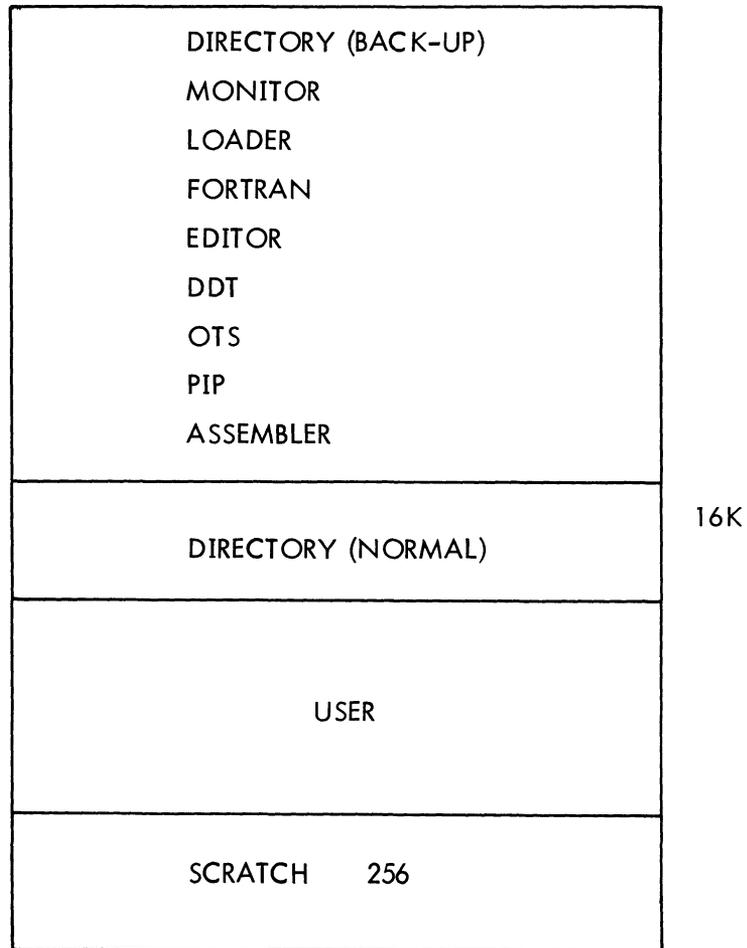
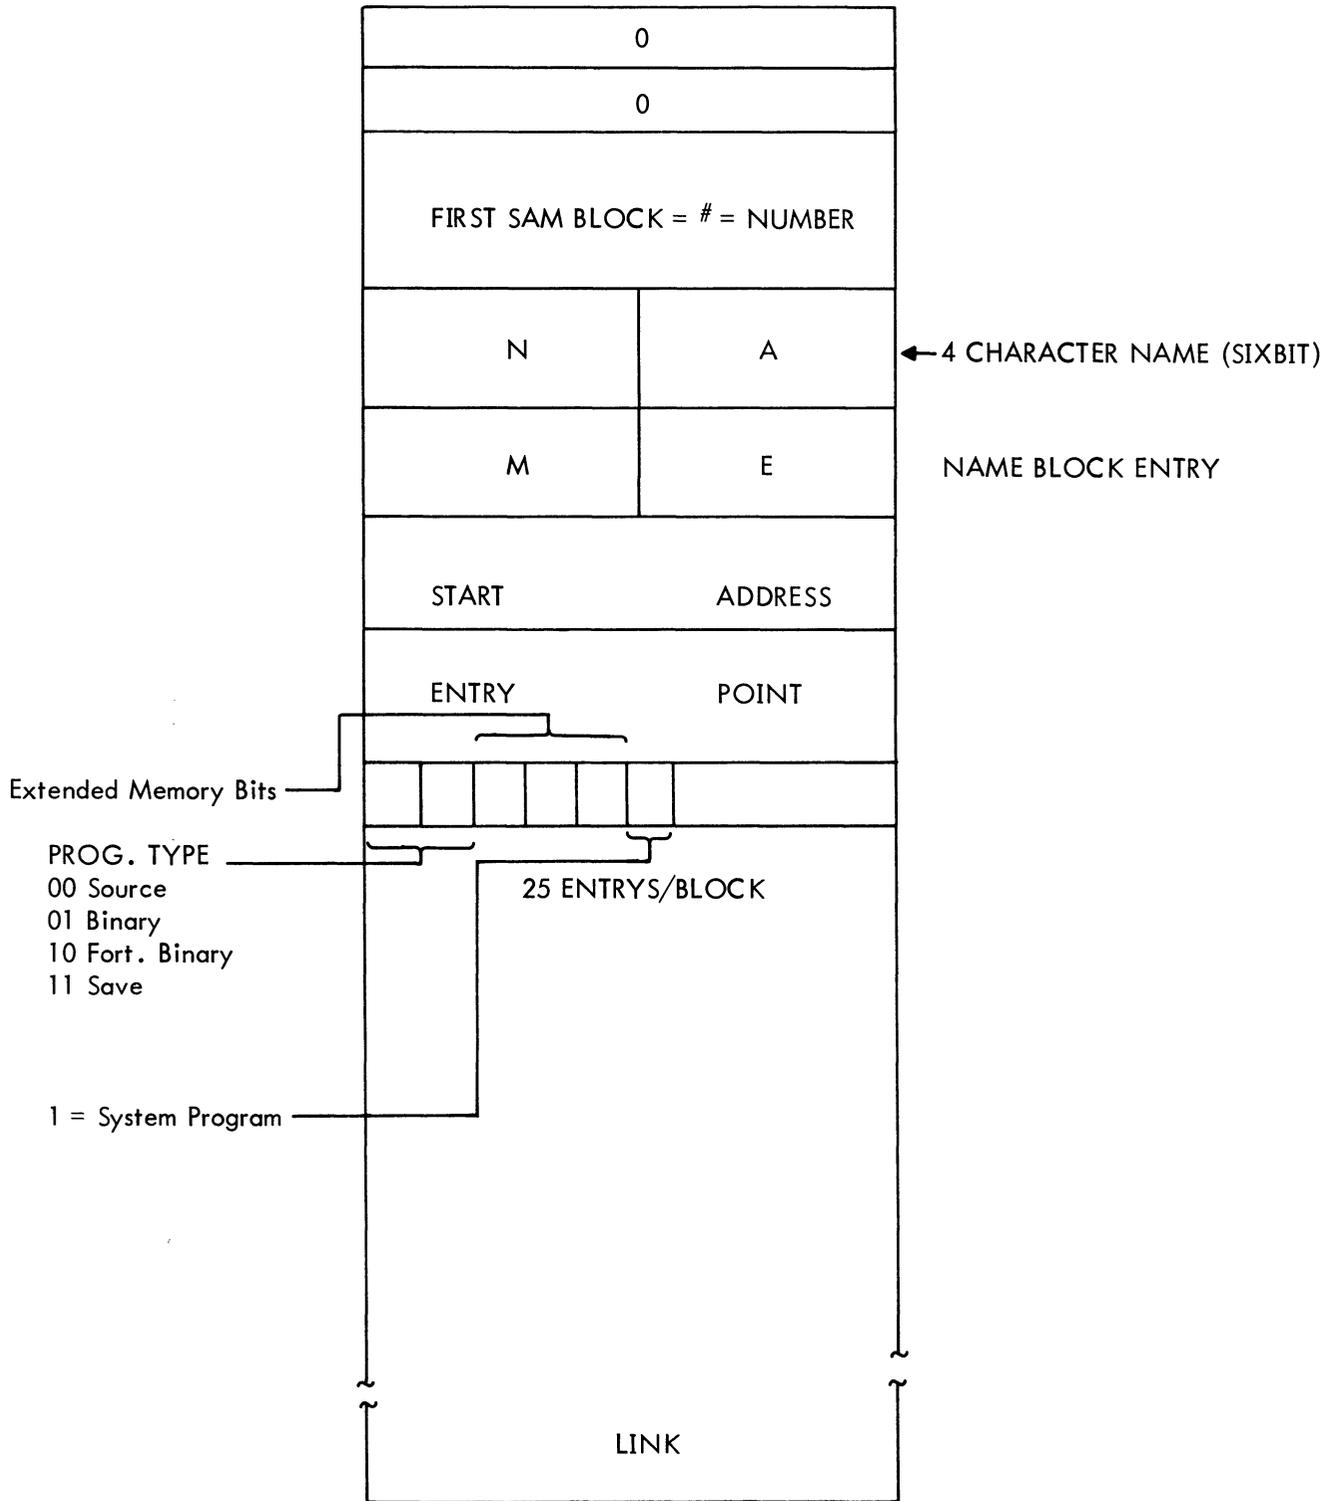
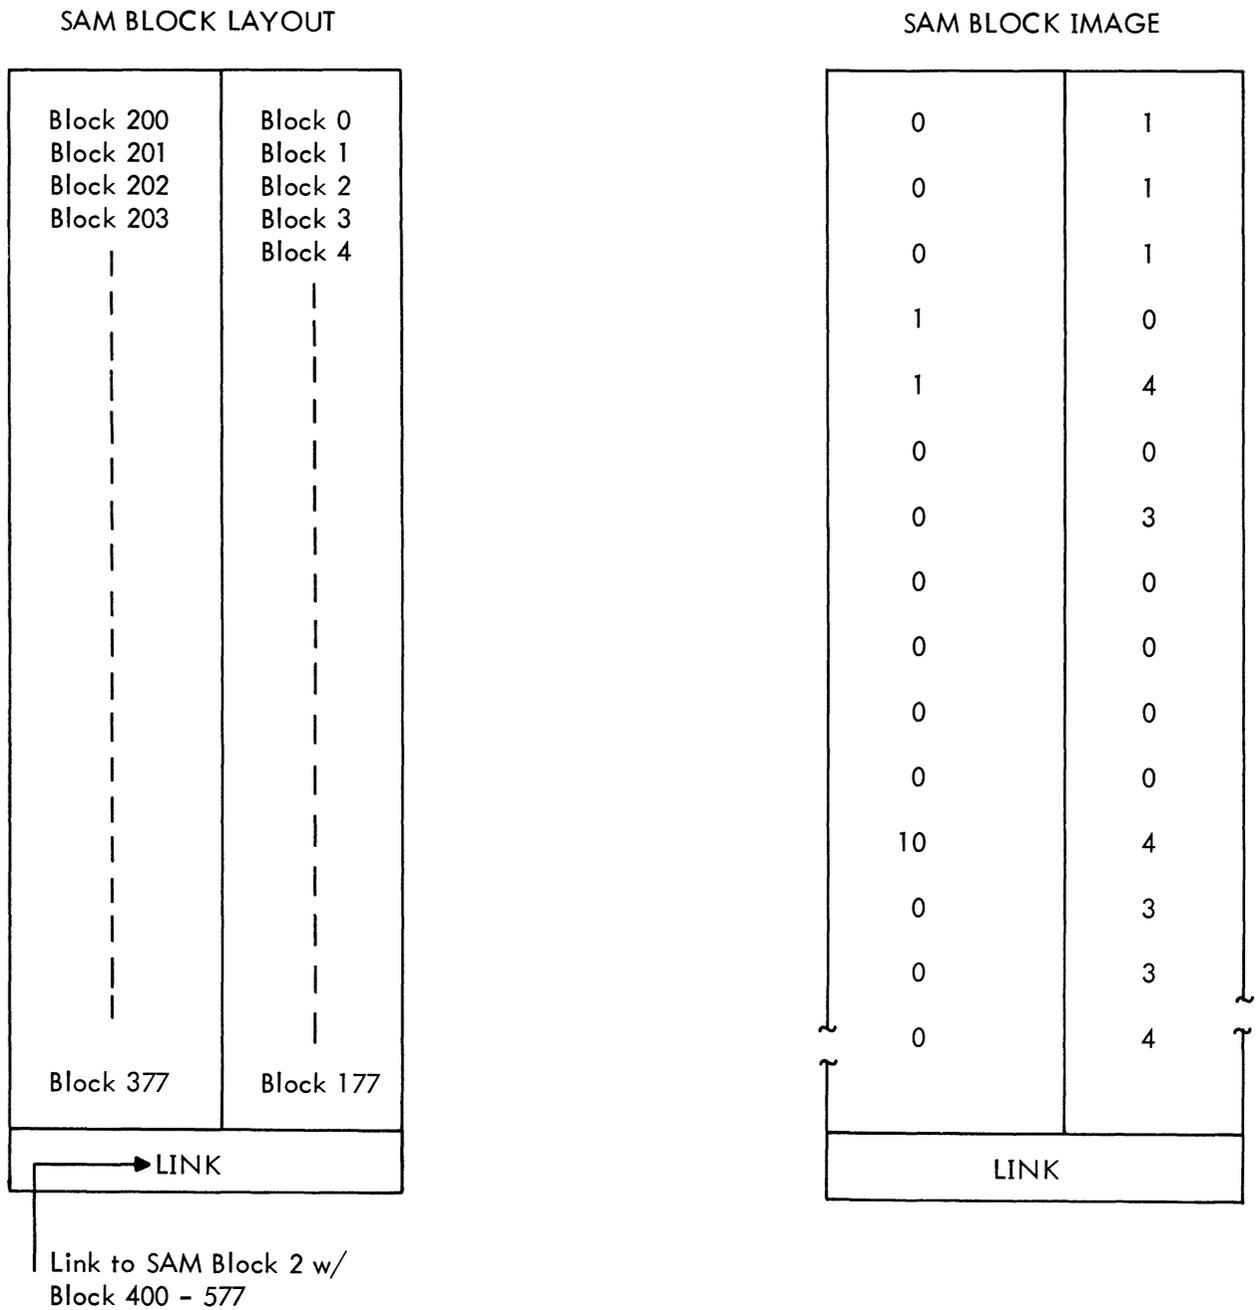

Figure 2 Mass Storage Configuration
Figure 3 Directory Name Block
Figure 4 Storage Allocation Map
5.2.1 File Structure - A relatively sophisticated file structure is implemented to allow for automatic retrieval of storage for use by the system and a requirement for a single DECtape system. (See Figure 2.) Two types of blocks are present - directory name (DN), and storage allocation map (SAM) blocks. The former are described in Figure 3, the latter in Figure 4. All blocks are linked with the end of chain line - 0. The top of the SAM block chain is addressed in all DN blocks. The SAM block is the item which allows automatic storage retrieval. Each DN entry has a SAM number between 1-77₈. A zero means unused. A SAM block has a record of 256₁₀ pages of mass storage (Figure 4). The first page of any numbered program is found by searching SAM blocks until an entry with matching number is found. To add to a file, find a SAM block entry equal to 0, insert the correct SAM number and adjust the storage block linking. To delete a block, the DN entry is cleared and the SAM block entries (equal to the DN number) are zeroed out.